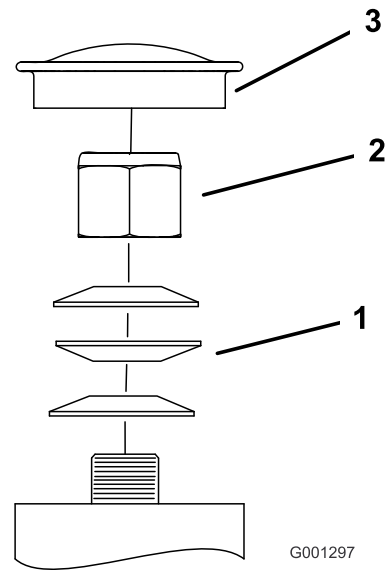

Figure 41
3. Remove the dust cap from caster and tighten lock nut (Figure 41).
4. Tighten the locknut until the spring washers are flat and then back off a 1/4 turn to properly set the pre-load on the bearings (Figure 41).
Important: Make sure spring washers are installed correctly as shown in Figure 41.
5. Install the dust cap (Figure 41).